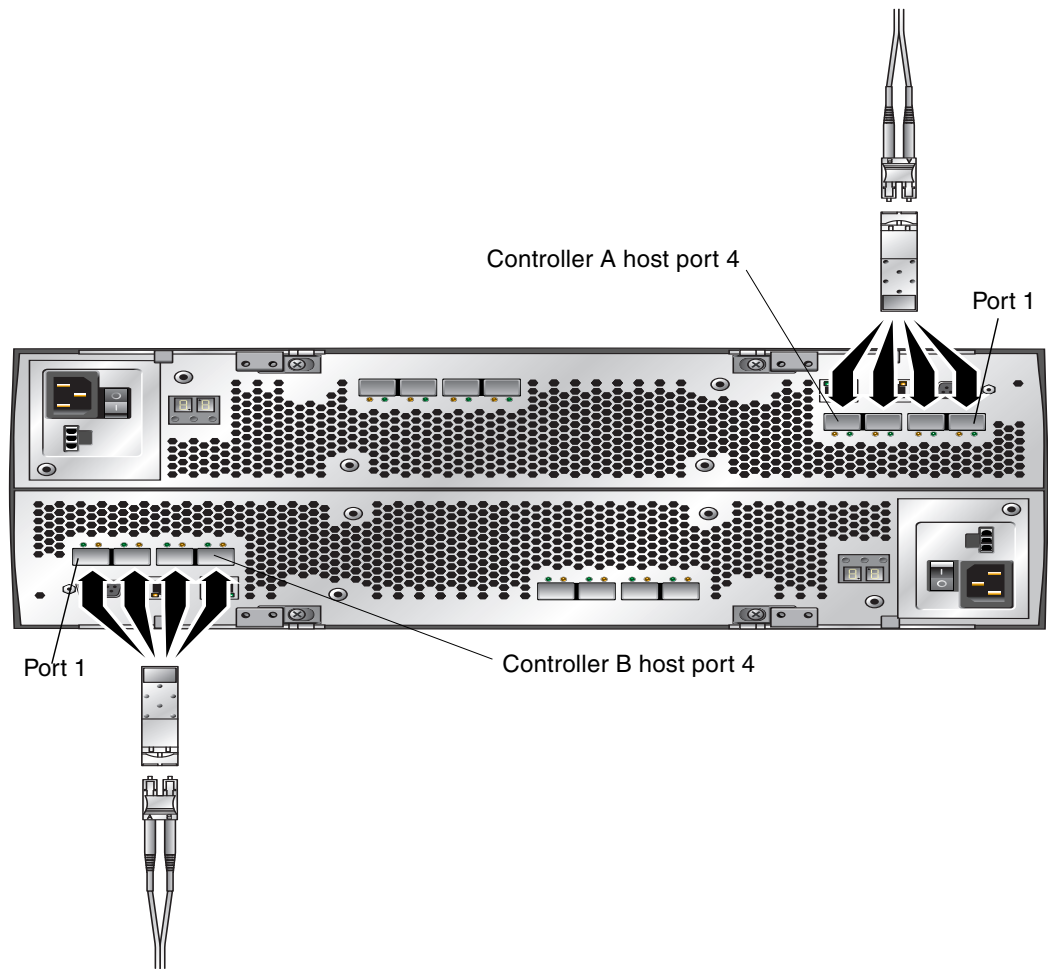

FIGURE 3-2 Data Host Ports
1. **Locate the data host ports (Small Form-factor Pluggable [SFP] transceivers) at the back of the controller tray (FIGURE 3-2).**
1. **Locate the data host ports at the back of the controller tray (FIGURE 3-2).**